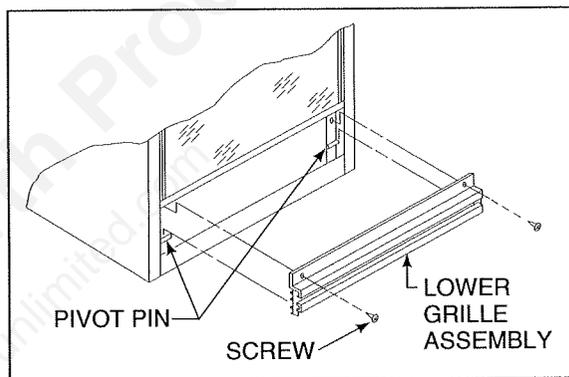

Figure 24
Remove the (2) phillips screws. Lift the panel to disengage the pivot pins and pull the panel forward. See Figure 24. The glass panel does not require removal for this.